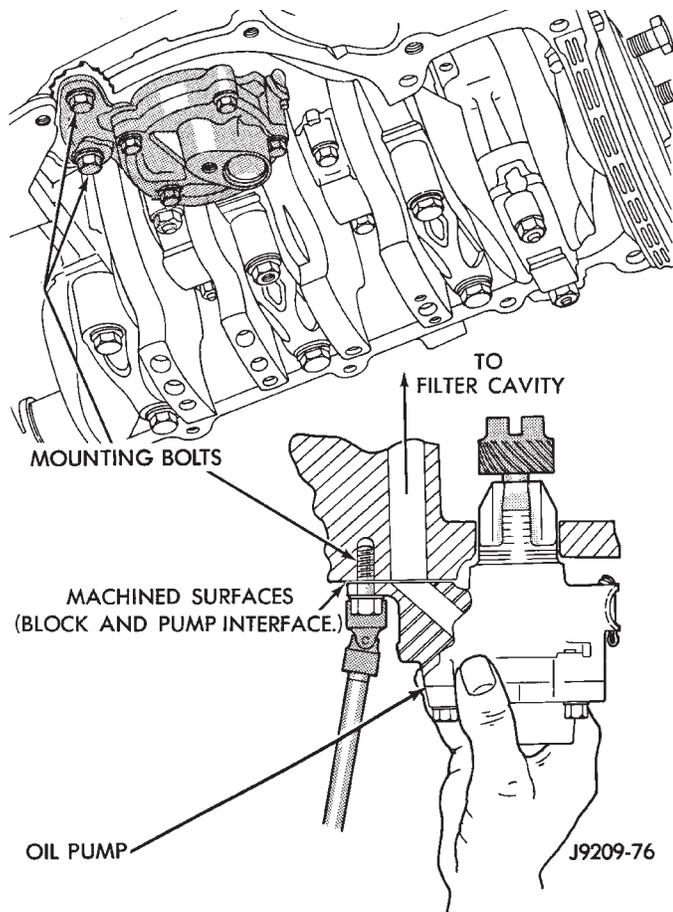

Fig. 5 Oil Pump Assembly
- (1) Remove two (2) screws holding oil pump to cylinder block assembly (Fig. 5).
- (5) Install pump full depth and rotate back and forth slightly to ensure proper positioning and alignment through full surface contact of pump and block machined interface surfaces (Fig. 5).